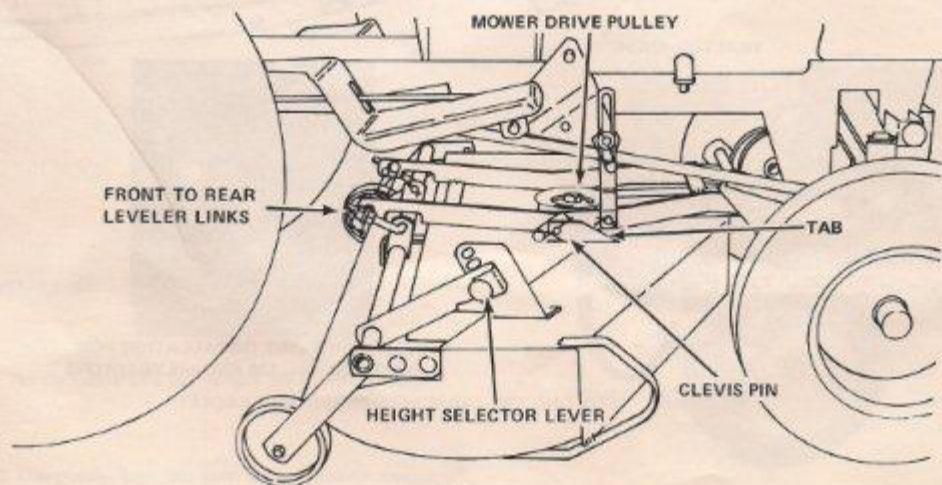

FIGURE 17 MOUNTING THE L44 MOWER DECK
7. Fasten the leveler links to the mounting bracket as shown in Figure 17.